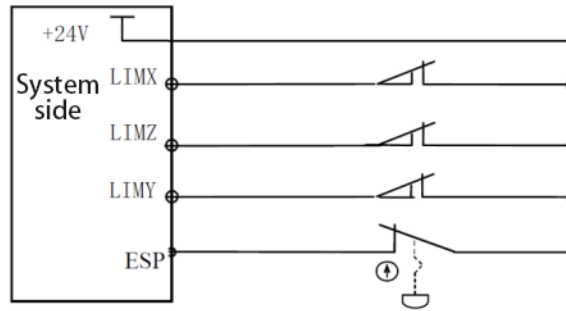

Figure 2-34B Emergency stop and travel switch are independently connected
(2) The stroke limit is independently connected with the emergency stop, and the connection mode is shown in Figure 2-34B below